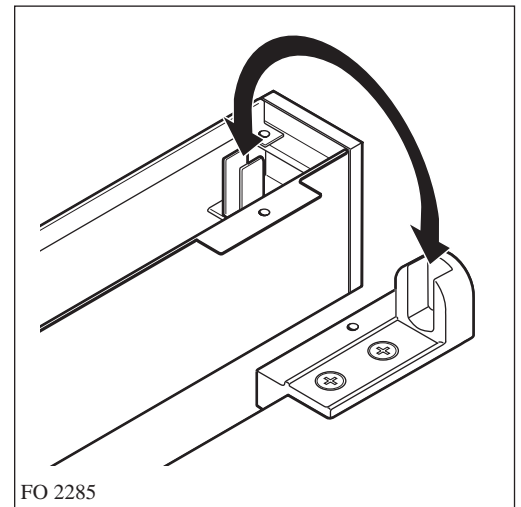

Fig. 5
5. Insert the splash back into the proper hinges in the rear part of the hob (Fig. 5).